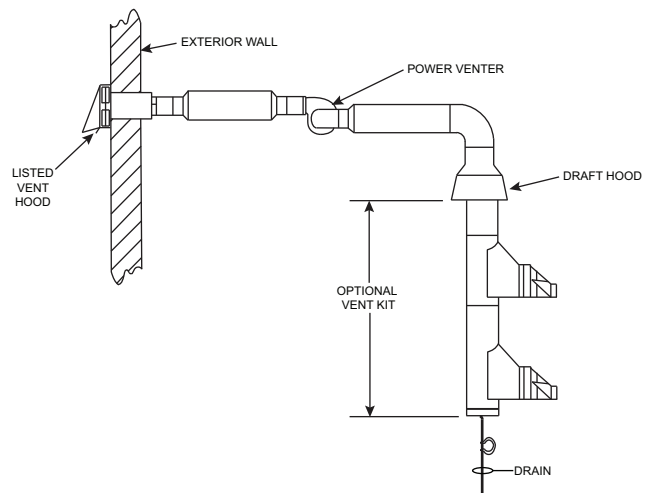

Fig. 158 — Indoor Horizontal Vent System
- See Fig. 158 for indoor horizontal (powered) vent system.